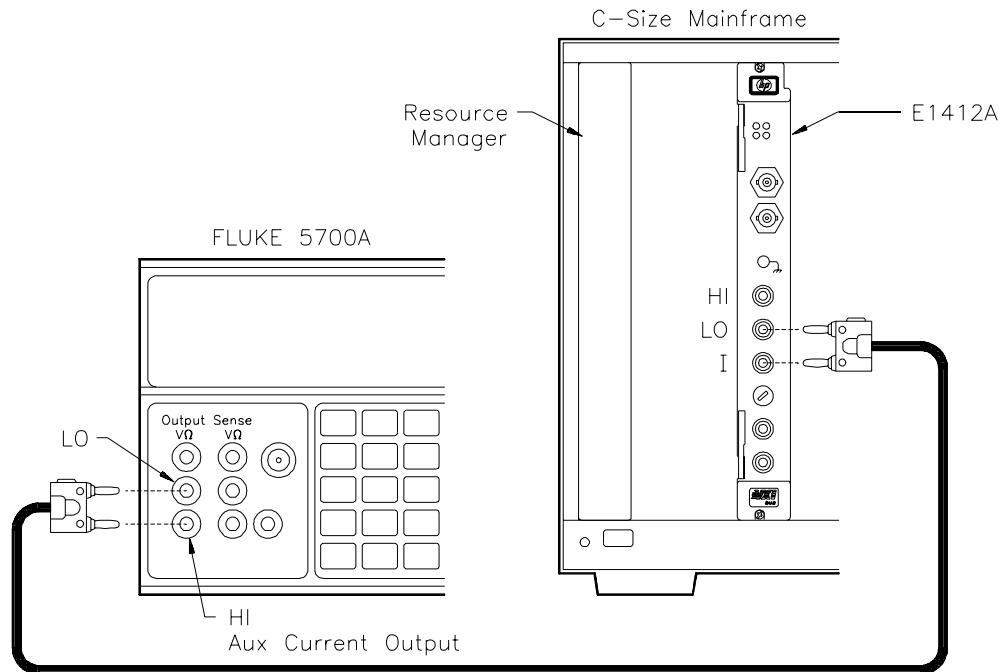

Figure 5-6. DC Current Gain Adjustment Setup.
1. Connect the DC Standard current output across the I and LO terminals of the Agilent E1412A as shown in Figure 5-6.